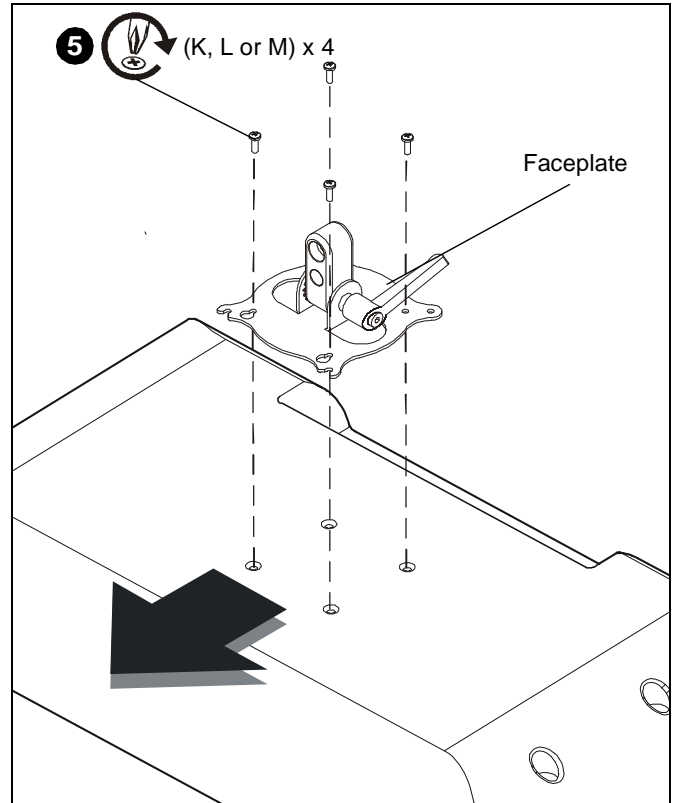
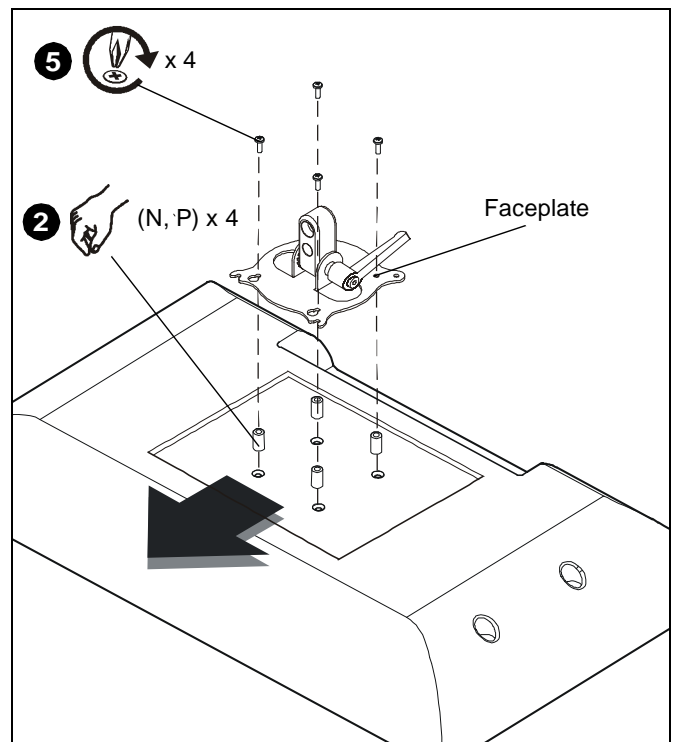

Figure 7
Figure 8
NOTE: In Figures 7 and 8 the swing arm has been removed for clarity.
- If mounting holes are *recessed into* back surface of display, then place spacer (N or P, as applicable) over each mounting hole on back of display (See Figure 8). Select shortest spacer which will provide adequate fill. All spacers must be same length.
5. Install screws (K, L, or M; as applicable) through mounting holes on faceplate and spacers (N or P, if applicable) into display (See Figure 7) (See Figure 8).